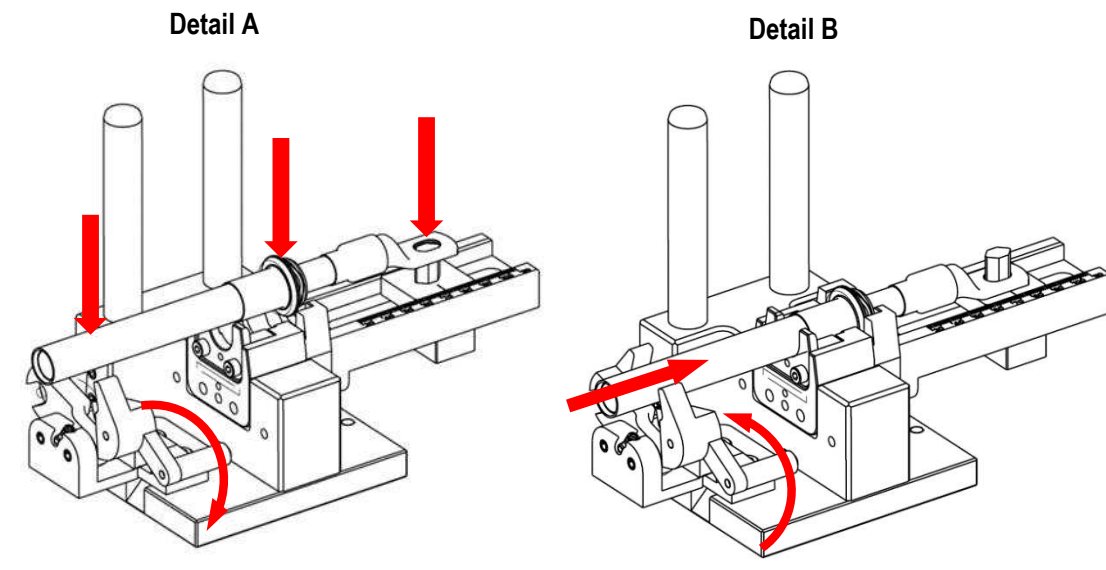

Figure 4
3. Open the wire clamp by pressing down on the lever and position the prepared assembly into the Terminal Locator (see Figure 4, Detail A).
4. Push the assembly towards the tooling to seat the Shield against the Shield Stop. Release the lever to clamp the wire in place (see Figure 4, Detail B).